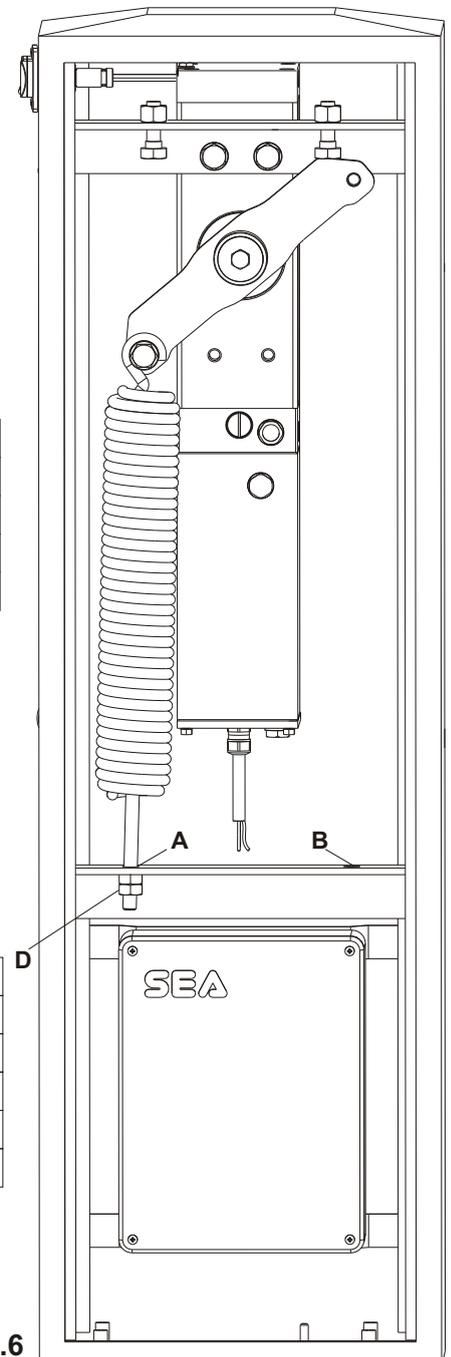

Fig.6
-Insert the connecting rod of the spring into the hole (A or B) and insert the dice (D) without locking them (Fig.6).